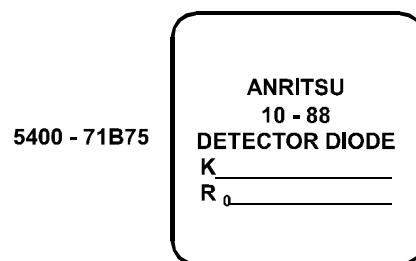

Figure A-3. Replacement Diode Container Label
- Step 5** Obtain the “K” value from the replacement diode container label (Figure A-3).